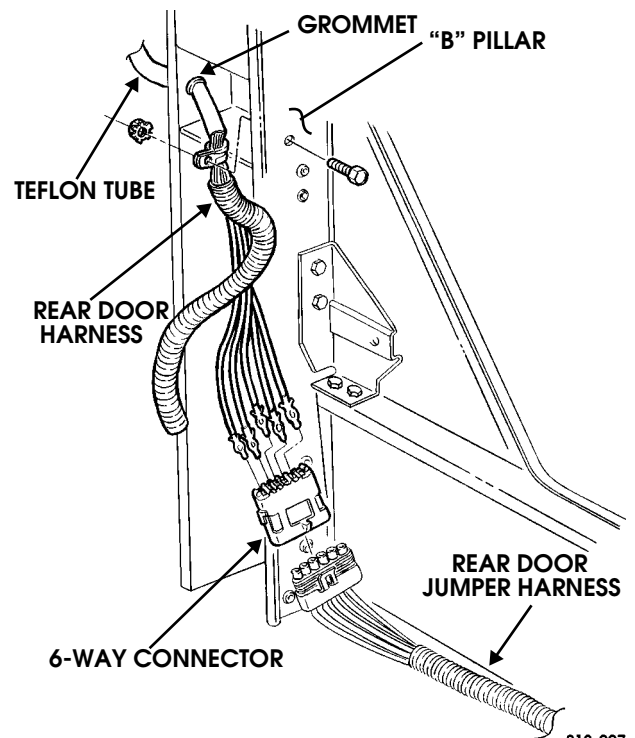

Figure 12-130: Rear Door Harness and Rear Door Jumper Harness
3. Route harness through B-pillar rubber grommet (Figure 12-130).